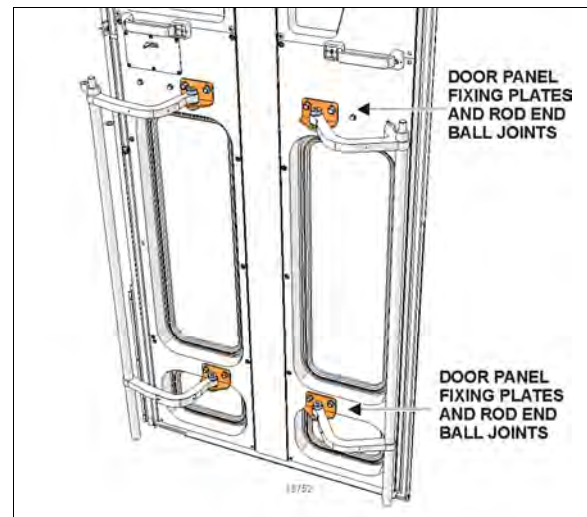

FIGURE 55: DOOR PANEL ADJUSTMENTS
2. Unfasten the bolts fixing the door panel plates. See Figure 55